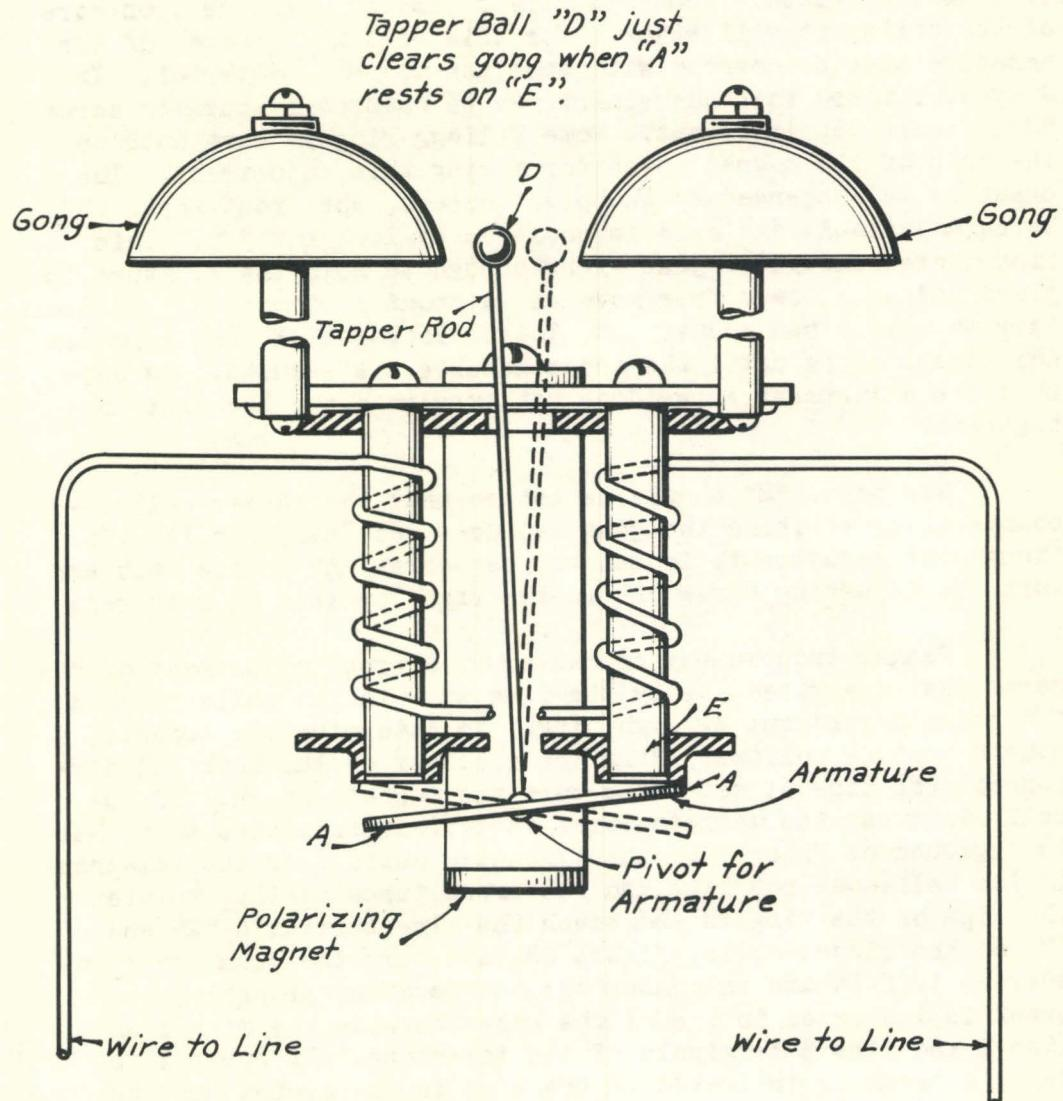

FIGURE 84
The four circuits in a magneto telephone with bridging circuits as shown in schematic diagram in figure 82, and the Kellogg ringer circuit, which is different from the Graybar as shown in figure 83; together with descriptive diagrams of each circuit as shown in figures 84, 85, 86, and 87, are as follows:
1. The bell or "ringer" circuit, figure 84, includes only the ringer coils.
The following adjustments of these parts must be made to secure proper results. The ends of the armature, A A in figure 84, to which the tapper rod is attached should have a movement